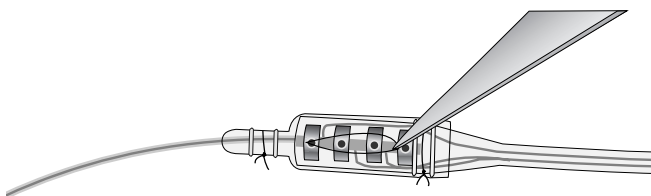

Figure 28. Cut the suture and connector boot to expose setscrews.
4. Cut the suture and the connector boot over the setscrews to expose the setscrews (Figure 28).